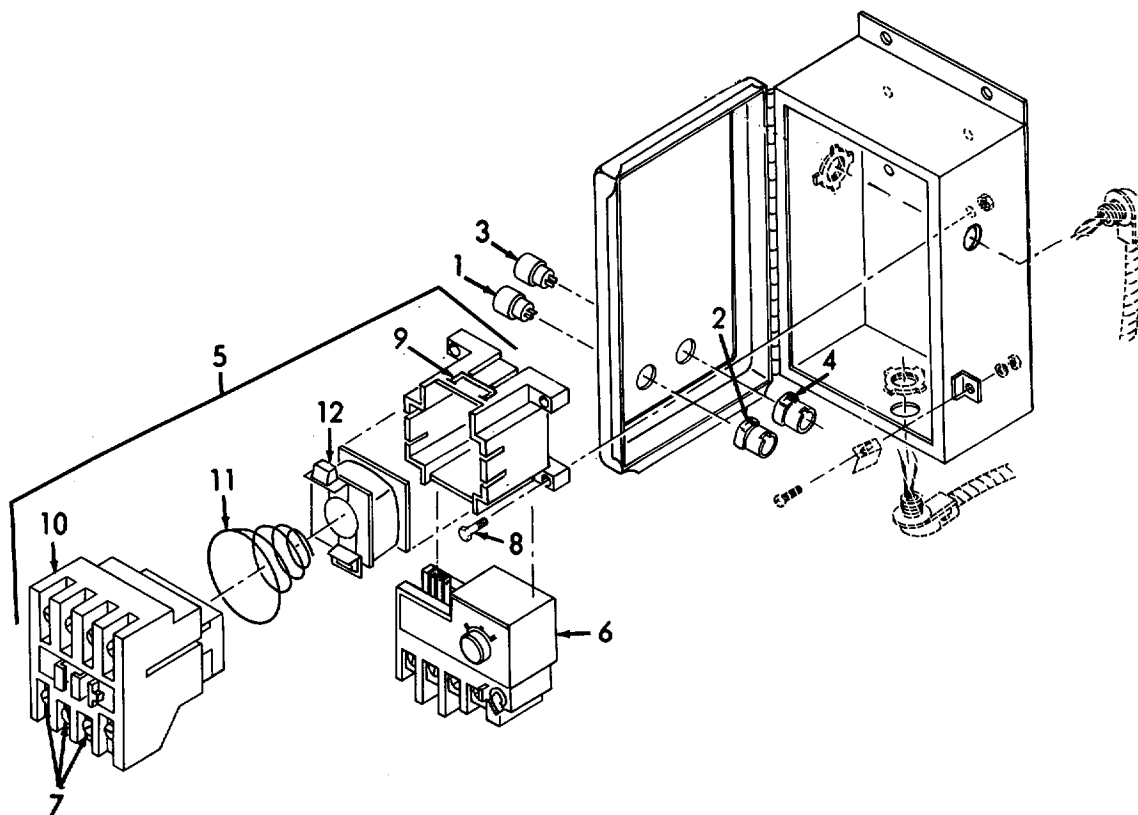

Figure 3-4. Starter Box, Disassembly.
b. *Disassembly.* (Refer to Figure 3-4).